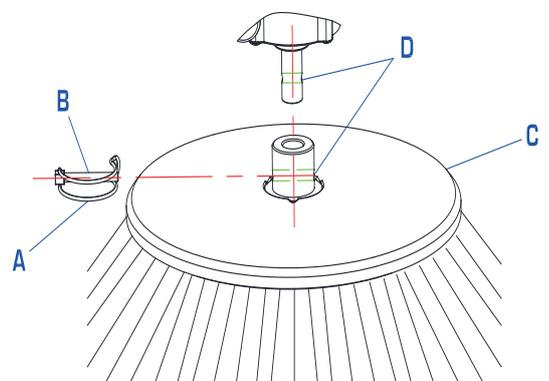

Figure8
- 1) Drive the machine on a level ground and release the pedal (2) and stop the machine.
- 3) Release the spring (A, Fig. 8), remove the pin (B) and the brush (C) from the gearmotor shaft.
- 4) Install the new side brush on the gearmotor shaft, insert the pin (B, Fig. 8) in the holes (D, Fig. 8), and engage the spring (A, Fig. 8)